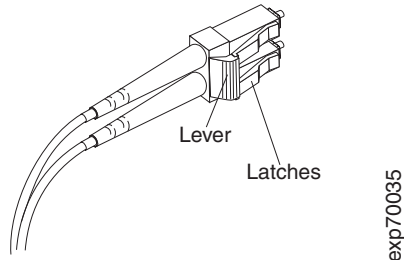

Figure 27. LC-LC fibre channel cable lever and latches
1. On the end of the LC-LC cable that connects into the SFP module or host bus adapter, press down and hold the lever to release the latches, as shown in Figure 27.